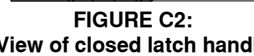

FIGURE C2:
2. Once the base is in place, turn each of the latch handles as shown in figure C2. Turning the latch handles clamps the base down to the truck. It is critical that the base be drawn down firmly onto the attachment points. If a handle rotates freely, or will not rotate without excessive force, it will need to be adjusted.